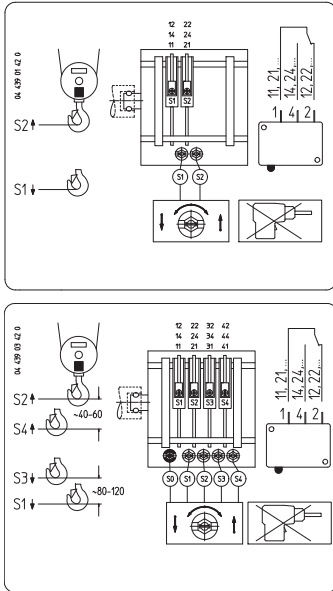

Fig. 1/2
6.5.1 Standard crane - version I (Fig. 1/2)